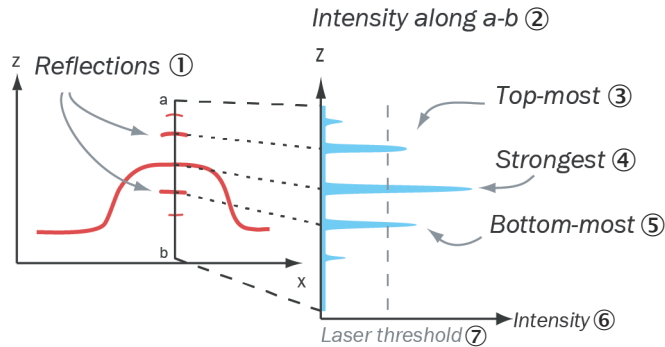

Figure 30: Laser line acquisition criteria.
- **Top Most** and **Bottom Most** locate the highest or lowest point with an intensity higher than the value set by the **Laser threshold** parameter. See figure 30.